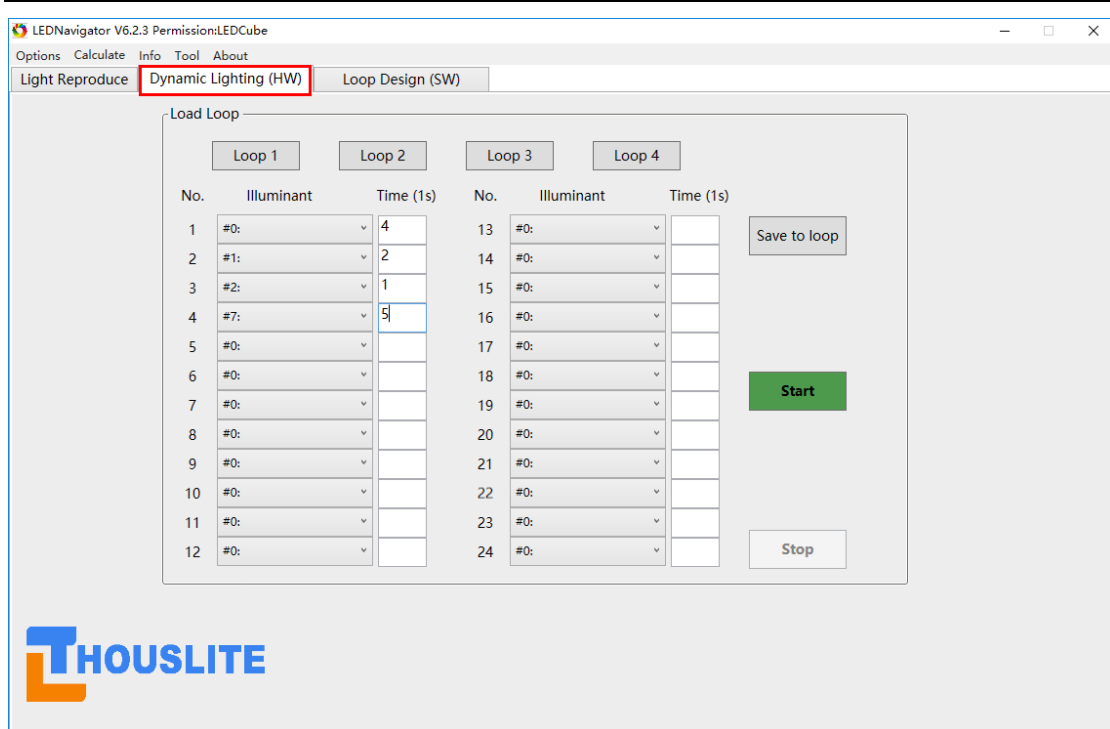
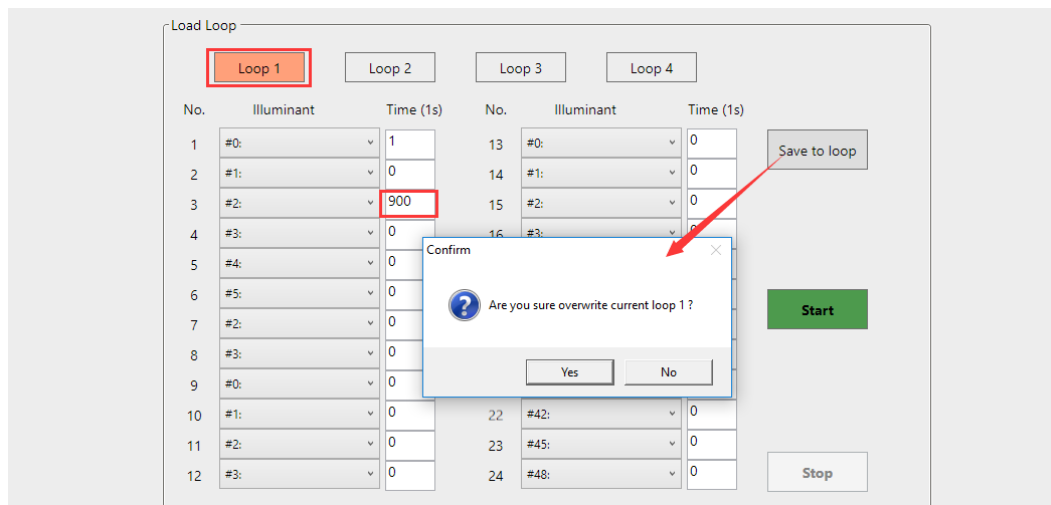

Fig. 4.22 Interface of Dynamic Lighting
Fig. 4.23 Save changes to current loop
4.9 Dynamic Lighting (HW)
Fig. 4.22 shows the interface of *Dynamic Lighting (HW)*. Totally, users can select max 24 presaved light sources within one loop. Users can set the switch interval between light sources in the loop. The minimum interval is 1 second. If the time is set to 0, the corresponding light source will be skipped in the loop. Press *Start* or *Stop* button to start or stop a loop. In addition, users could save the current setting into a loop by pressing *Save to Loop* as shown in Fig. 4.23.